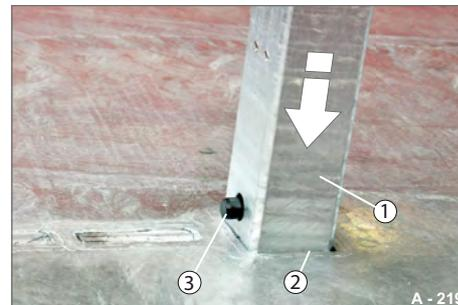

Fig. 228 Inserting stanchion
- ▶ Insert the stanchion (Fig. 228/1) completely into the post pocket (Fig. 228/2).
The stanchion automatically engages in the post pocket and is secured with the integrated lock button (Fig. 228/32).